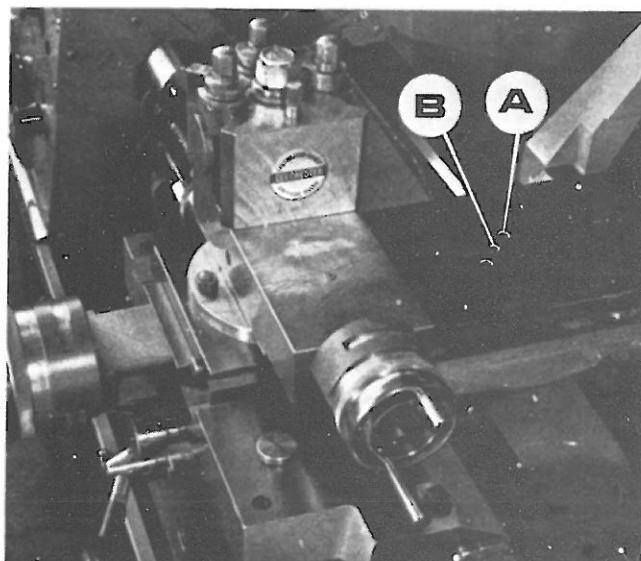

Fig. 24
This is adjustable for elimination of slackness which may develop in service. Reduce backlash by loosening the rear caphead screw (A) shown in Fig. 24 then carefully screw in the centre screw (B) to adjust a wedge within the split nut. Make only slight alteration at a time and operate the cross-slide repeatedly through full travel to be sure of smooth action.
A large-bore pipe returns oil from the bottom of the headstock into the tank. Ensure that the oil level in the tank is kept topped up to the mark on the filler-cap dipstick, see Fig. 24. Check oil level weekly and change the oil every year using Shell Tellus Oil 27 or equivalent grade (see below). Tank capacity is  $2\frac{1}{2}$  gallons.